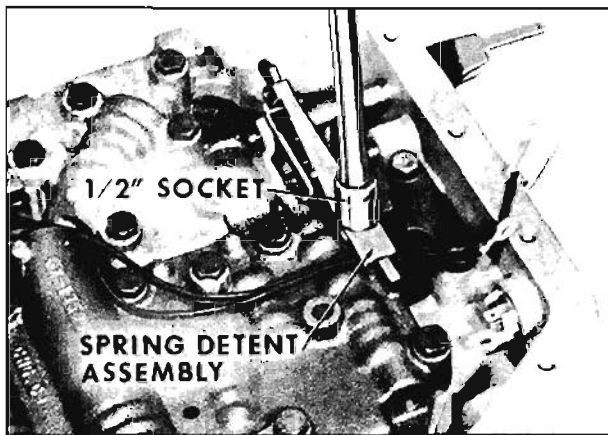

Fig. 6-448 Low Band Adjustment
2. Back off band adjusting screw four turns and lock nut. (Fig. 6-448)